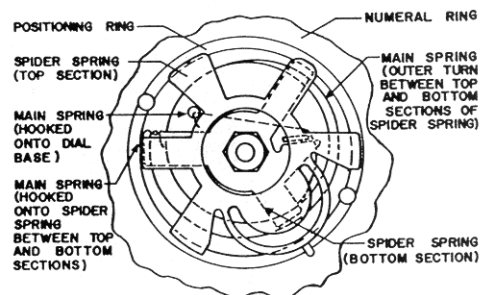

Fig. 4 MAIN SPRING, SPIDER SPRING AND POSITIONING RING LOCATION
- The spider spring is shaped so that a separate cam casting is not necessary. The main spring is hooked over the three tabs on the rim of the spider spring then the spider spring is rotated, to tension the main spring, and pressed over the flattened end of the main shaft. See Fig. 4; also paragraphs 3.3d and e of sub-section M2A-DLS/GEN.
- A positioning ring is fitted in the center of the reflector ring in order to locate the numeral ring correctly. The location of the positioning ring is indicated in Fig. 4.